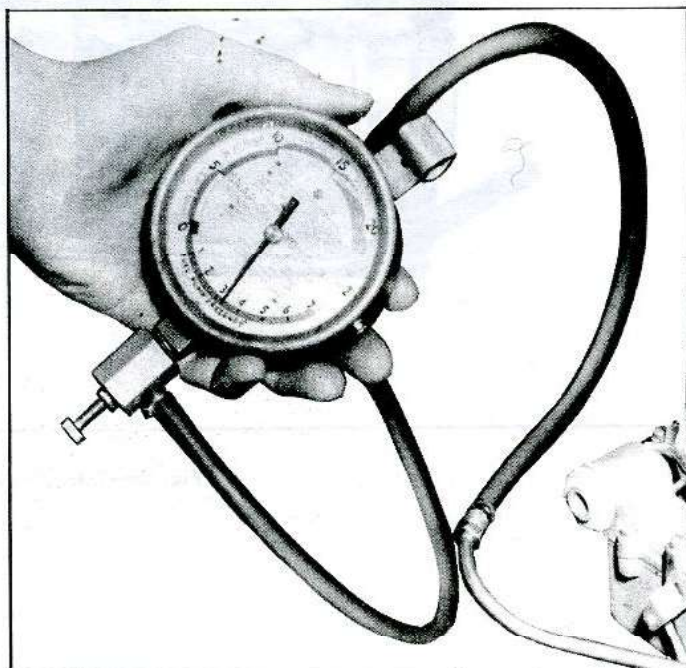

Fig. 58—Pressure Test
4. If fuel flows from pump in good volume (1 pint in 40 seconds or less at cranking speed) from pipes at carburetors, check fuel delivery pressure to be certain that pump is operating within specified limits as follows (fig. 58):